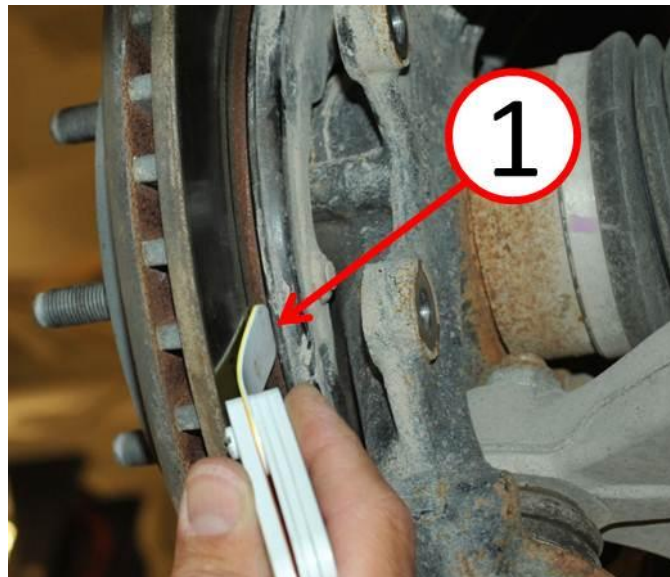

Fig. 3 Clearance Check
6. Reinstall the brake rotor onto the wheel studs and verify that there is 1.5mm spacing between the brake rotor face and the dust shield. Repeat previous step if necessary to achieve the proper spacing (Fig. 3)